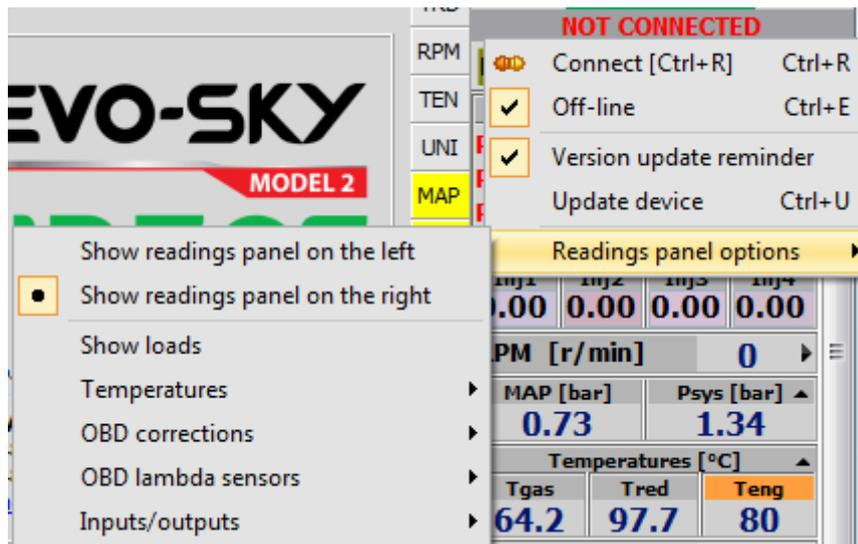

Fig. 2.6 Readings panel options
- **Program status bar** – located under a virtual panel a bar showing the program status, e.g.: NOT CONNECTED, controller connection, off-line operation, performing an update, detection of an older version of the program on a PC or the controller software, device blocked. Under the right mouse button, a menu appears with the options as on **Fig. 2.6**.